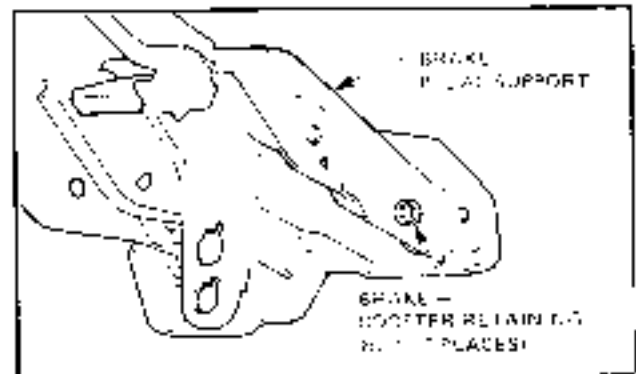

Figure 5-4
7. Remove two brake booster assembly retaining nuts at brake pedal support, from inside the vehicle. (Refer Fig. 5-4).